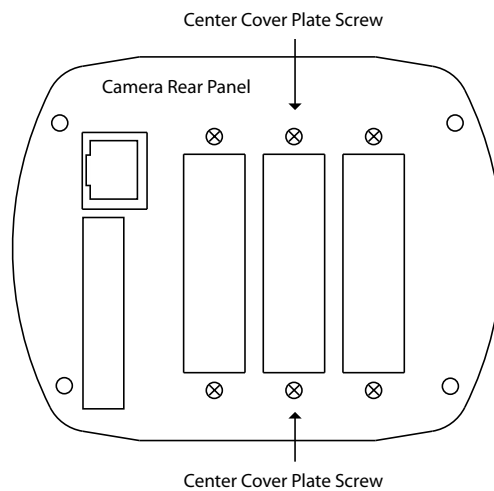

Figure 2-3 Center Cover Plate Screws
3. Remove the two screws holding the center cover plate with a Philips screwdriver or T-9 torx driver (figure 2-3).